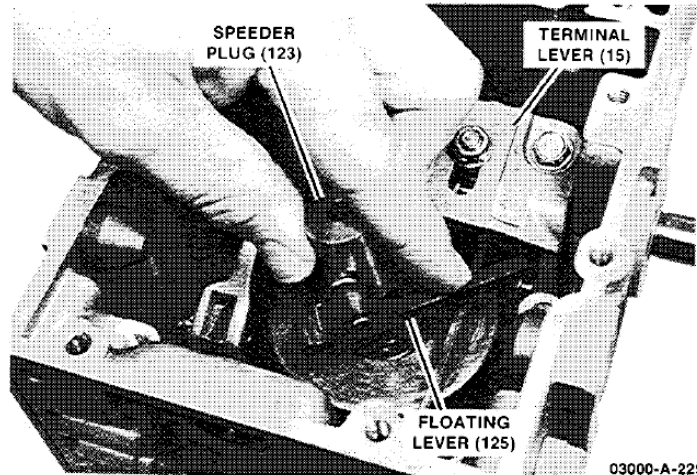

Figure 5-3. Speeder Plug Removal
1. Remove eight 3/8 inch hex head cover screws (1), and cover (10). Turn the governor upside down and drain the remaining oil from the case.
2. Remove nameplate (30). Loosen clamp screw (1) in speed setting lever (36). Remove speed setting shaft (28)
3. Remove three screws (1) and lift out speeder plug bracket (37), shutdown/limit rod (40), limit floating lever (41), and limit rod (42).
4. Carefully push down on speeder plug (123) and turn it until the floating lever (125) is clear of the terminal lever. Lift speeder plug (123) and speeder spring (122) out of the ballhead (Figure 5-3).